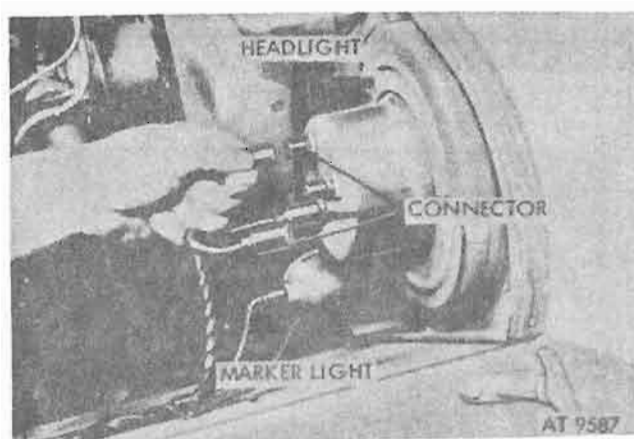

Figure 4-24. Headlight and marker light connectors.
(16) Disconnect eight connectors from headlights and blackout marker lights (fig. 4-24).